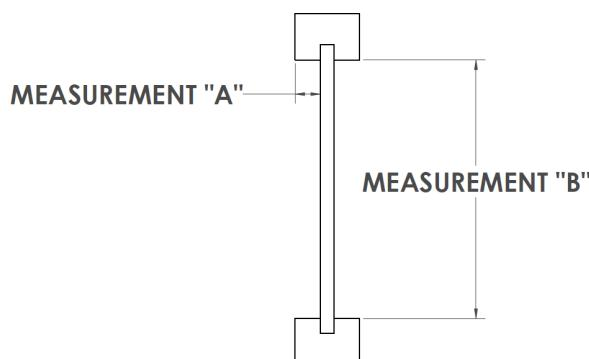

Figure 187: **TJI Joist Measurements**
4. Measure the distance between the side of the TJI joist OSB board and the edge of the flange (measurement A in Figure 187).
5. Measure the interior distance between the top and bottom of the TJI joist flanges (measurement B in Figure 187).